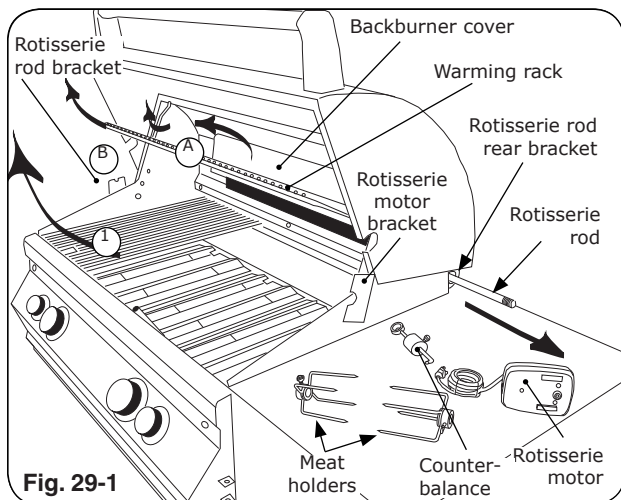
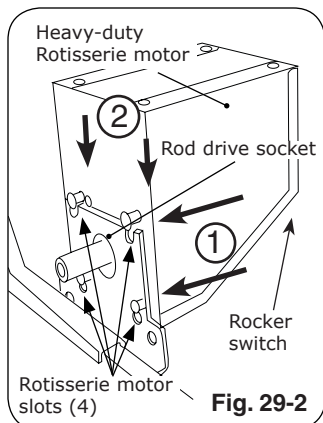
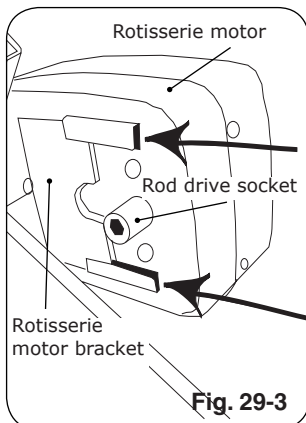

Fig. 29-1
Fig. 29-2
Fig. 29-3
2. Slide rotisserie motor fully onto motor bracket (right side, Fig. 29-1, Fig. 29-2 and Fig. 29-3).
3. Remove rotisserie rod from rear bracket (Fig. 29-1).